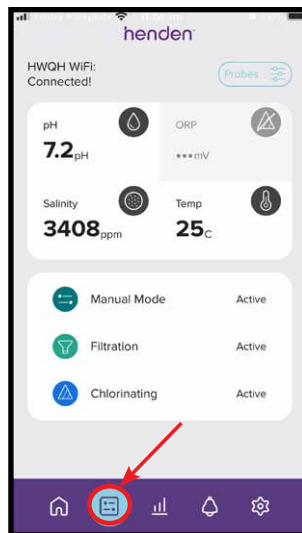

Figure 9.78
- From the dashboard, go to the “modes” menu by using the modes button (refer Figure 9.78).